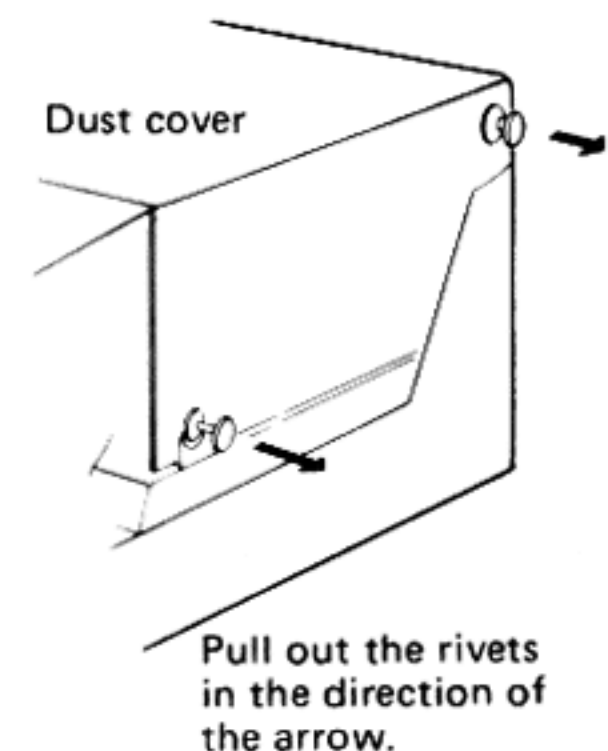

Fig. 9
1. Remove the right and left rivets of the dust cover. (Fig. 9)